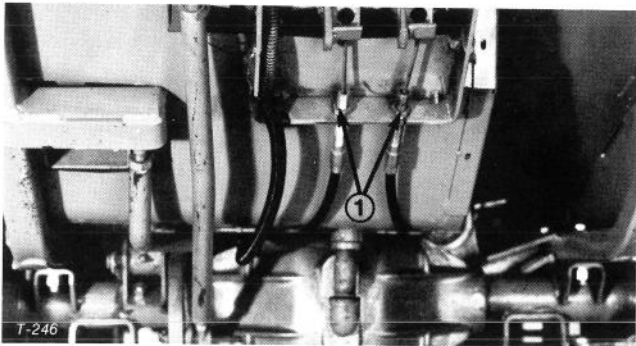

Figure 23
2. To reduce free travel of brake pedals – tighten the brakes – loosen front nut on threaded end of brake cable (Fig. 23). Then tighten rear nut to move cable backward until brake pedals have 1/2 to 1 inch (13 mm to 25 mm) of free travel. Tighten front nut after brakes are adjusted correctly.